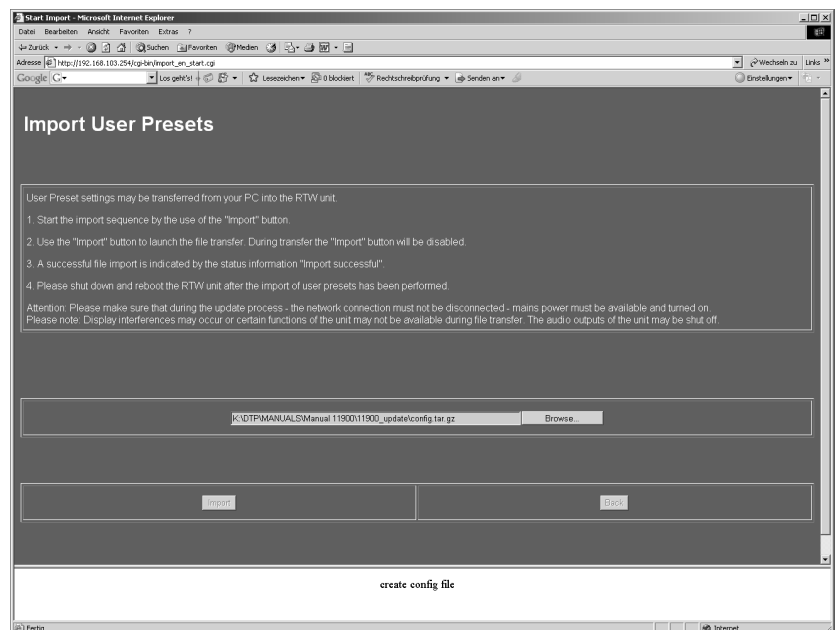

Fig. 8-22: The data transfer of the user settings is running
6. "Create config file" is displayed while the transfer is running (see Fig. 8-22).